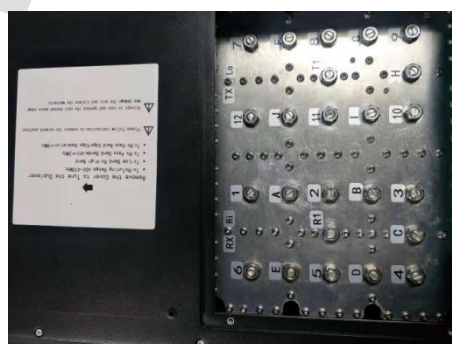

Fig.6 Remove the cover
2. Remove the 4 screws for the cover on the bottom of the unit as show in Fig.6